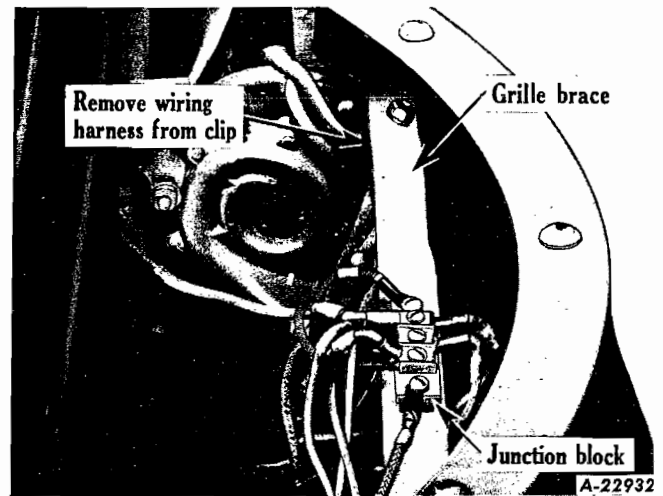

Fig. 60
- Remove head lamp wiring harness terminals from junction block on grille brace (Fig. 60). Mark wires for reassembly.
- Remove head lamp wiring harness from clip located on left side of grille brace (Fig. 60).